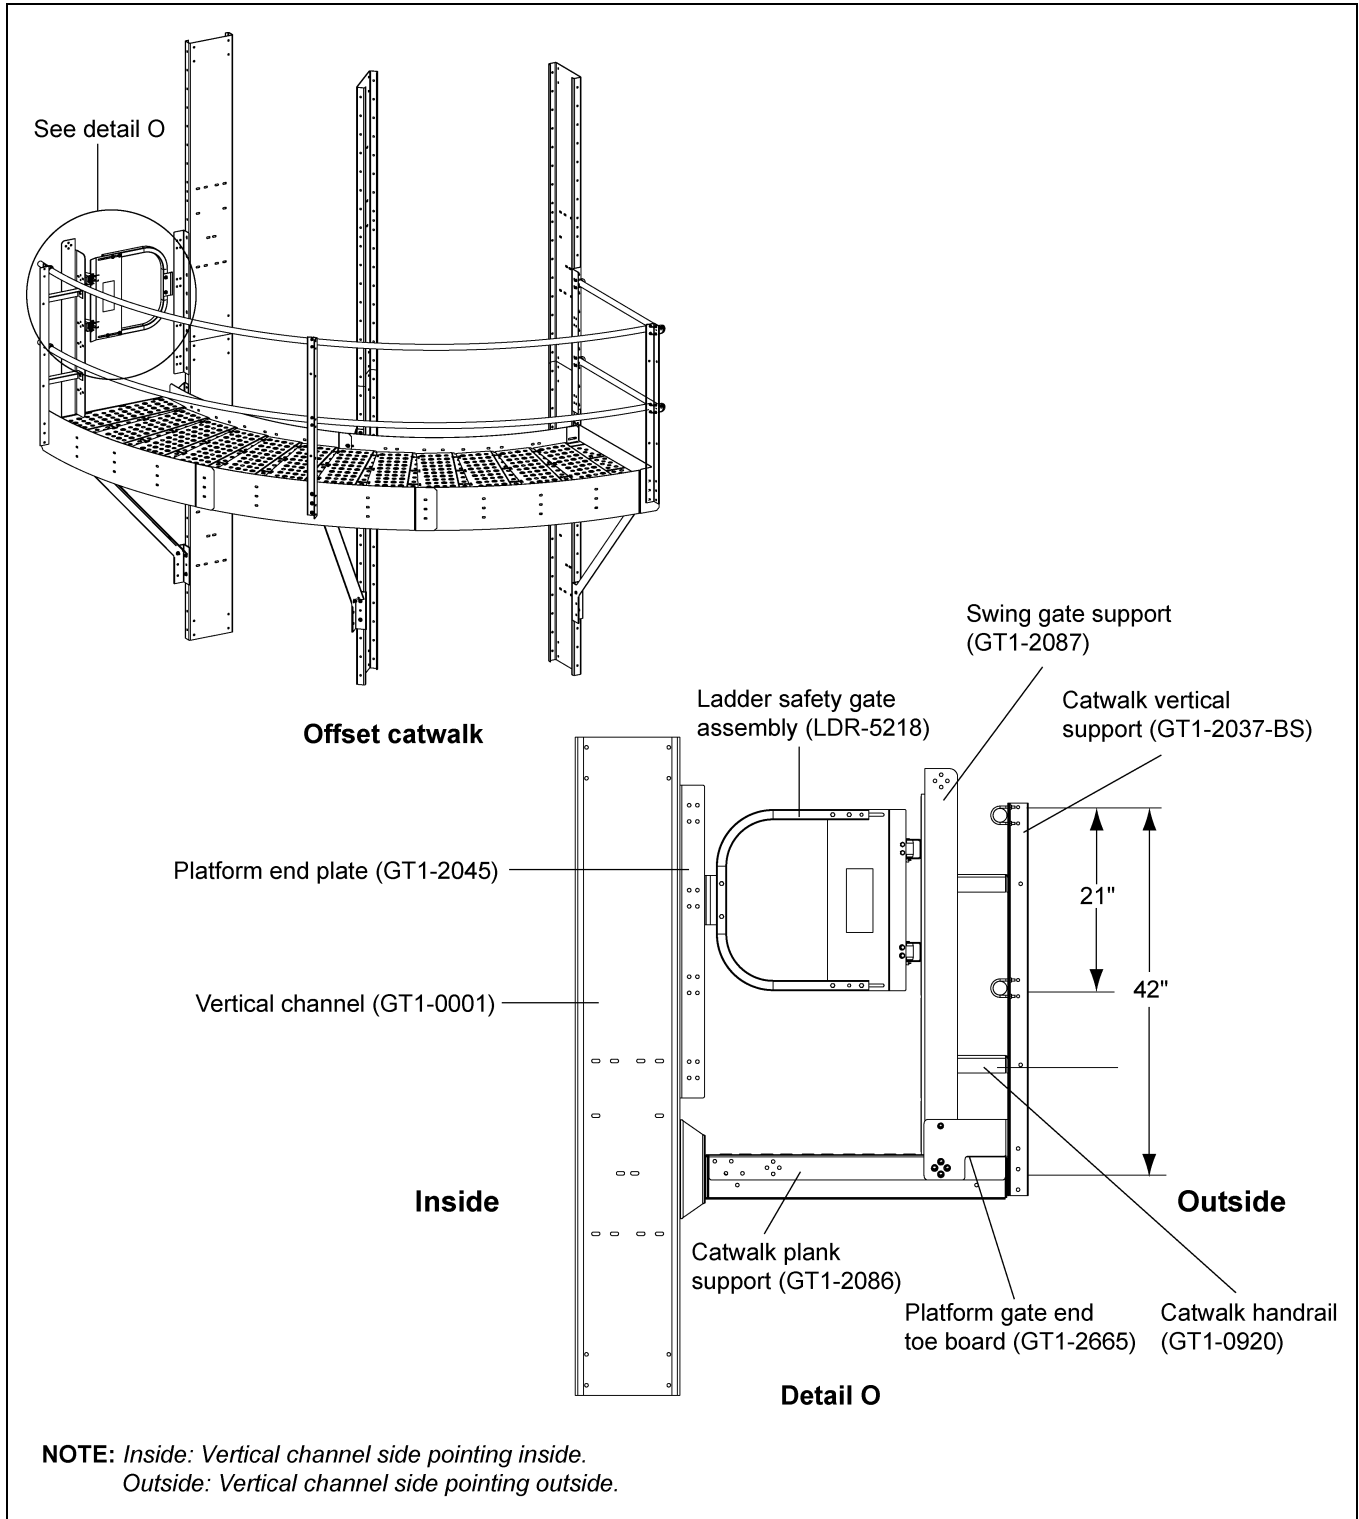
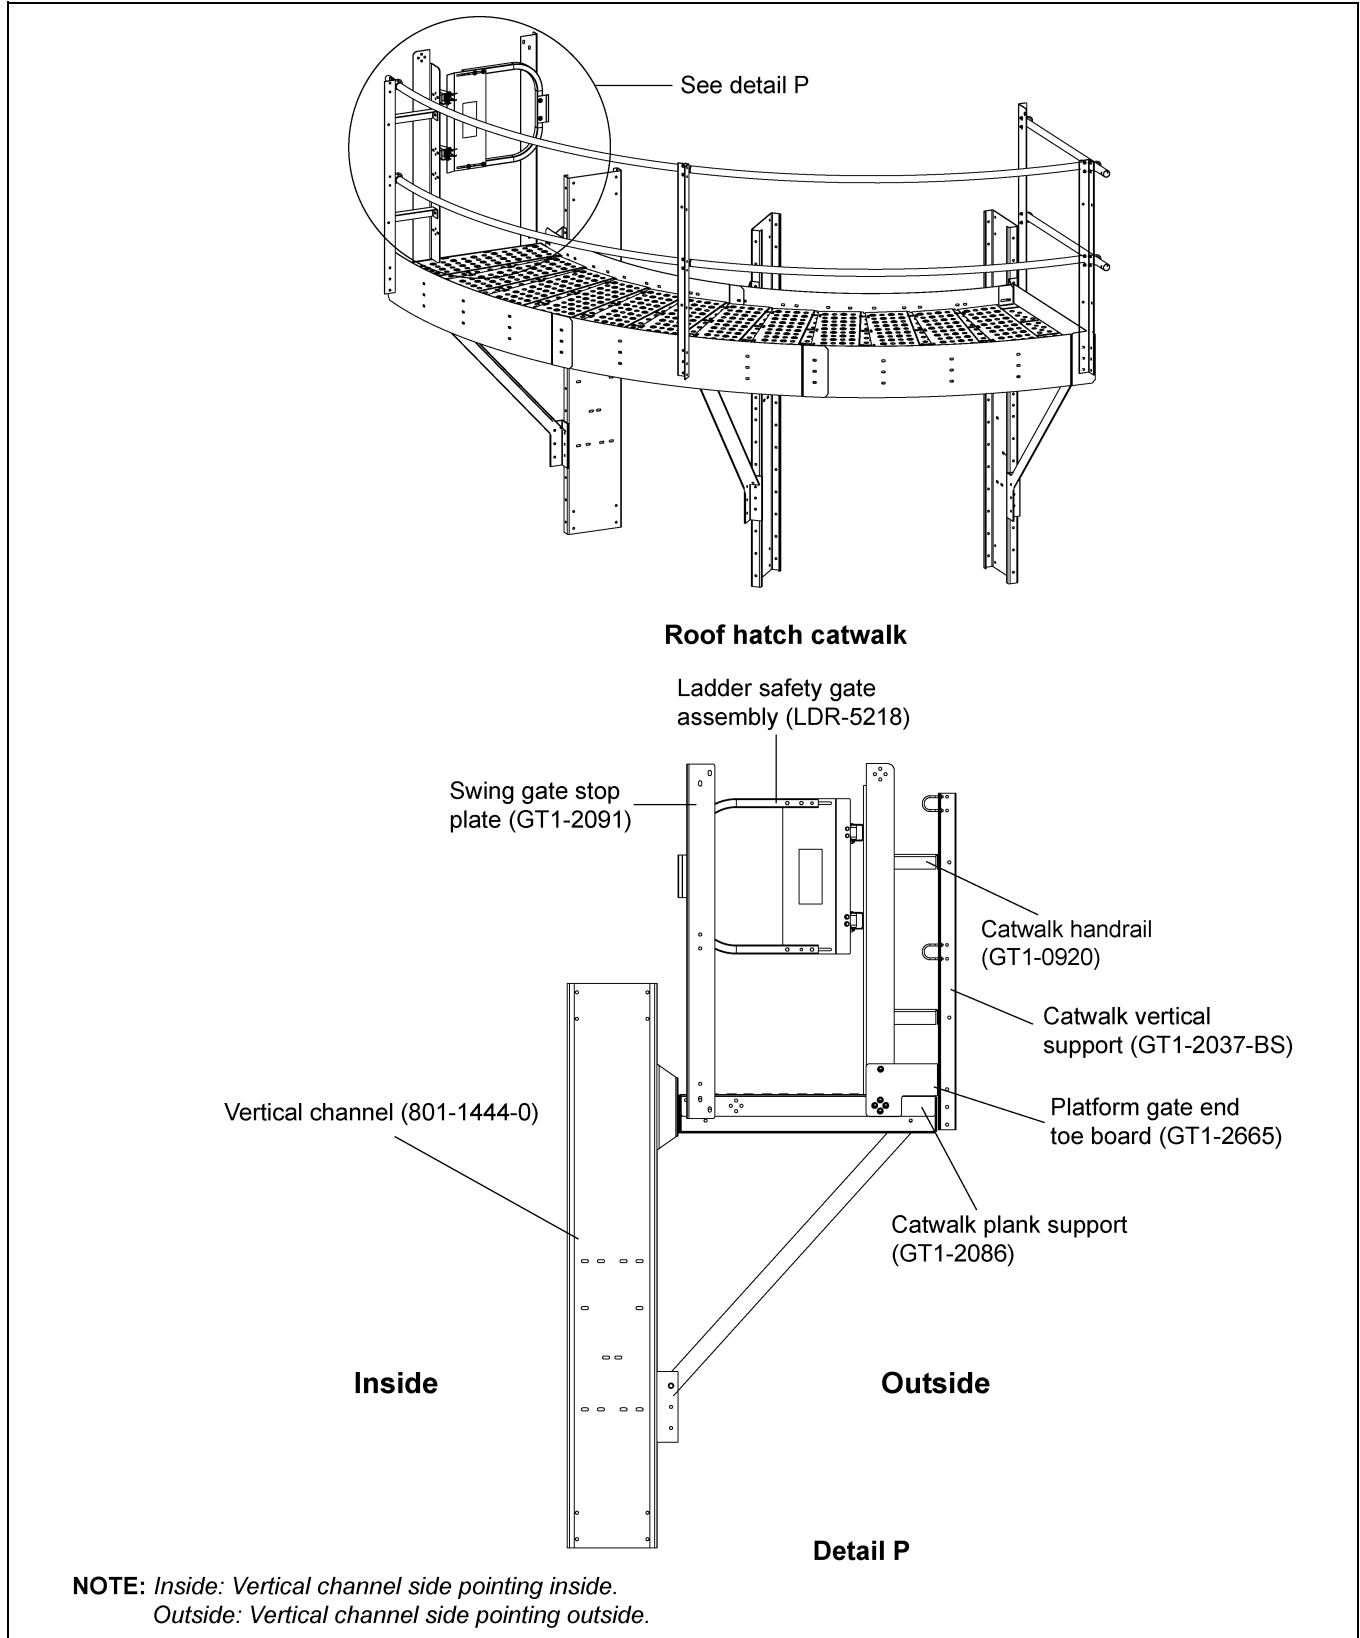

Figure 6Y Offset Ladder Safety Gate Assembly to Swing Gate Support (GT1-2087)
Figure 6Z Roof Hatch Ladder Safety Gate Assembly to Swing Gate Stop Plate (GT1-2091)
1. Install the ladder safety gate assembly (LDR-5218) to the swing gate support (GT1-2087) using 3/8"-16 x 1" JS grade 8 or grade 8.2 bolts (S-7485) and 3/8"-16 ZN grade 5 nuts (S-968). The distance between the plank and handrail is 42". (See Figure 6Y below and Figure 6Z on Page 64.)